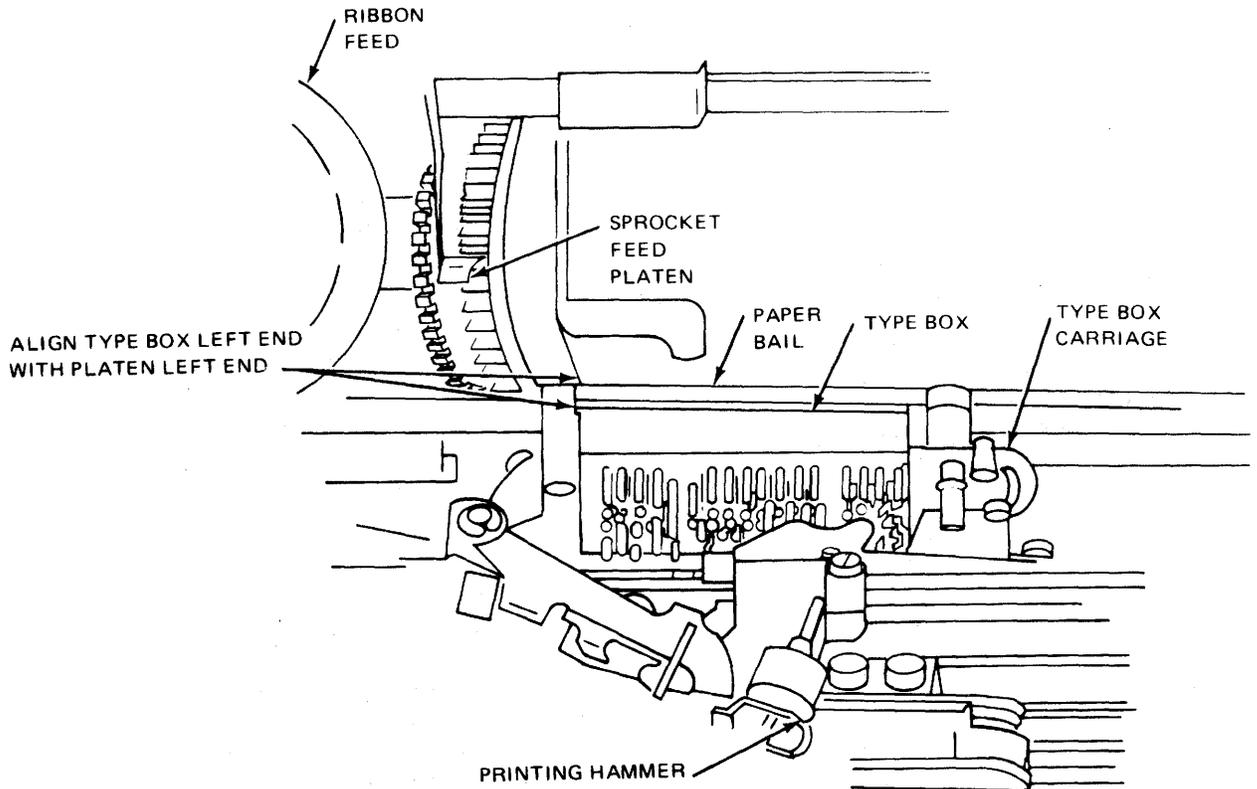

Figure 6-1. Left Margin Measurement (Top View).
6-7. Keyboard Left and Right Margin Adjustment. To adjust left and right margins, perform normal turn-on procedure (paragraph 6-6), see figures 6-1, 6-2 and 6-3, and proceed as follows:
3. Adjust left margin (see figure 6-1).
a. Verify that left edge of type box is aligned with left edge of platen  $\pm 1/16$  inch; then proceed to step 4 a.. If requirement is not met, proceed with step 3 b. (see figure 6-1).